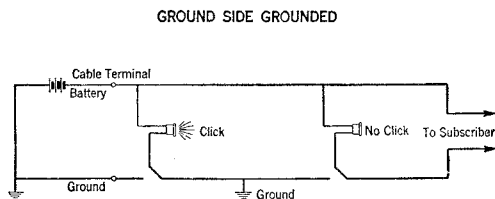

Fig. 5
- (c) Touch the exposed end of the wire that leads away from the central office with the other clip. (See Figure 5.)